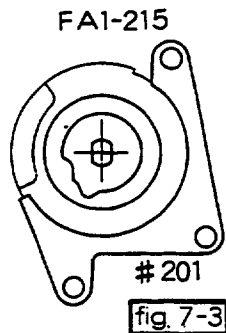

fig 7-3
- Fig. 7-3 shows how to install FAI-215 in place.